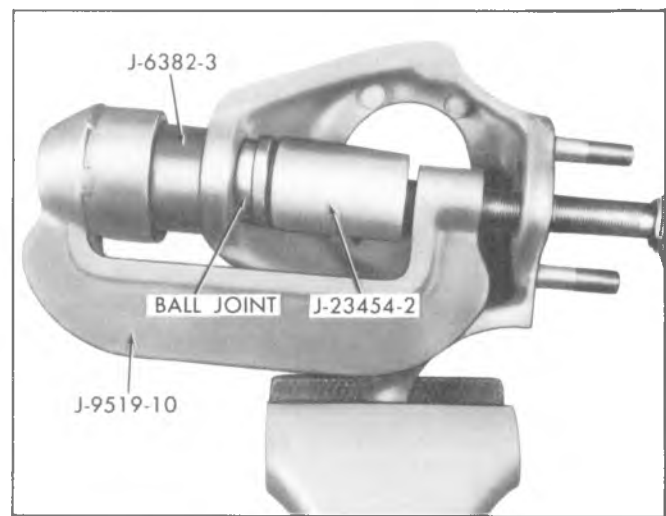

Fig. 3C-12K--Installing Lower Ball Joint
cotter pin hole in the stud end) is straight. Press the stud into the knuckle until properly seated using tools J-9519-10, J-23454-2, and J-6382-3 or equivalent as shown in Figure 3C-12K and install snap ring.
4. Install the upper ball joint into the knuckle. Press the stud into the knuckle until properly seated using Tools J-9519-10, J-23454-2, and J-6382-3 or equivalent as shown in Figure 3C-13K.